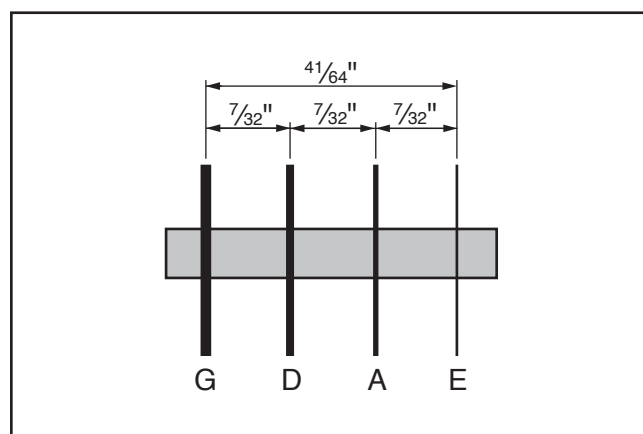

Figure 14. Diameter and spacing of strings.
4. Use a hobby knife to notch string grooves into nut at the measurements given in **Figure 14**.
5. Use a fine needle file to sand notches (see **Figure 14**).